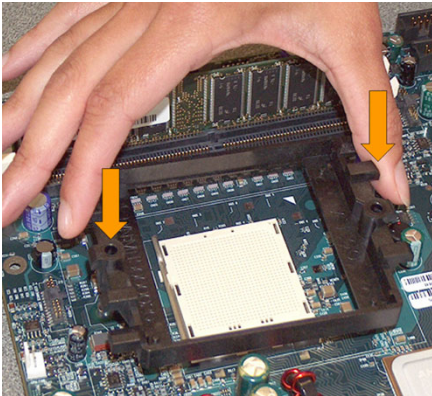

Figure 8. Retention Frame Screw Holes Aligned with Backplate Standoffs
8. The screw holes must align with the backplate standoffs. (See Figure 8.)